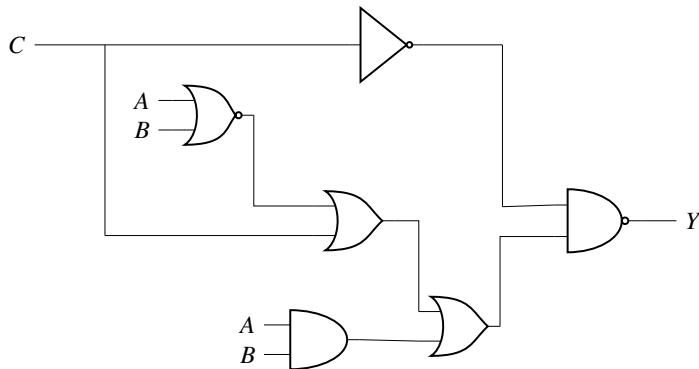

Fig. 3.20
37. In the circuit shown in Fig. 3.20, if  $C = 0$ , the expression for  $Y$  is